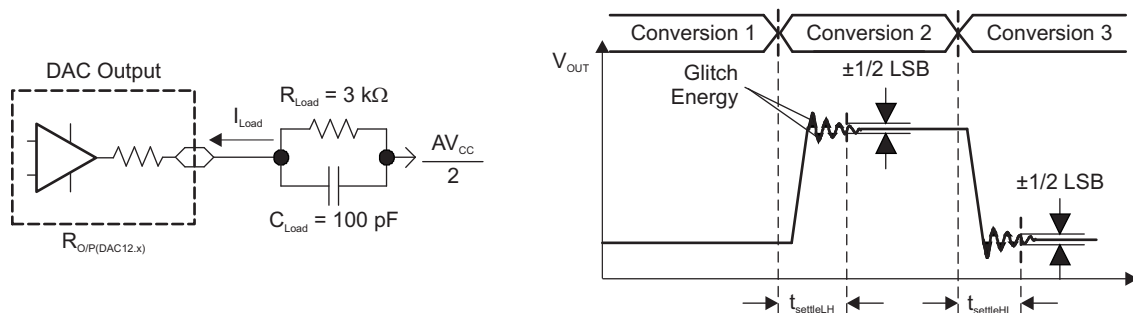
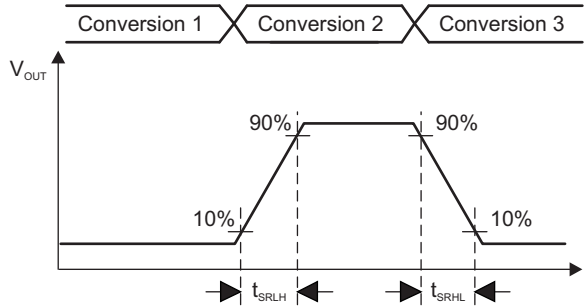

图 5-19. Settling Time and Glitch Energy Testing
图 5-20. Slew Rate Testing
V_{REF} = V_{CC}, DAC12IR = 1 (see 图 5-19 and 图 5-20), over recommended ranges of supply voltage and operating free-air temperature (unless otherwise noted)
(1) R_{Load} and C_{Load} connected to AV_{SS} (not AV_{CC}/2) in 图 5-19.
(2) Slew rate applies to output voltage steps ≥ 200 mV.